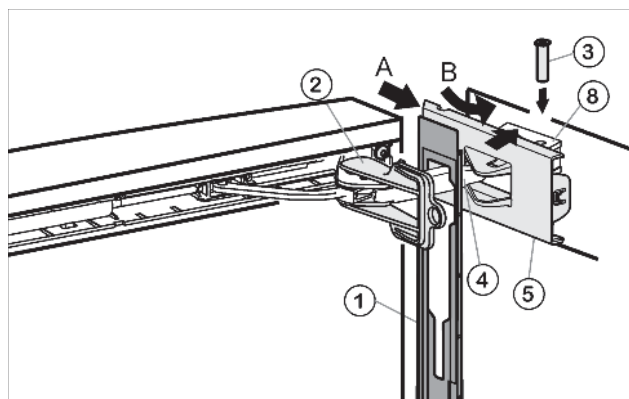

Fig. 24
- ▶ Hook panel Fig. 24 (1) into the damper bracket Fig. 24 (4) such that the detent hooks are pointing inwards and the front side is facing the appliance.
- ▶ Push on cover Fig. 24 (5) from the outside (A) and pivot over the bearing part Fig. 24 (8) (B).
- ▶ Place cover Fig. 24 (5) on top and allow to snap into place until the first notch.
- ▶ Pull damper bracket Fig. 24 (4) towards bearing part and insert bolt Fig. 24 (3) from above such that the square is resting in the recess.
- ▶ Now snap cover Fig. 24 (5) completely into place on the bearing part Fig. 24 (8).
- ▶ Remove locking device Fig. 24 (2) by twisting it.
- ▶ Snap panel *Fig. 24 (1)* into place on the door.